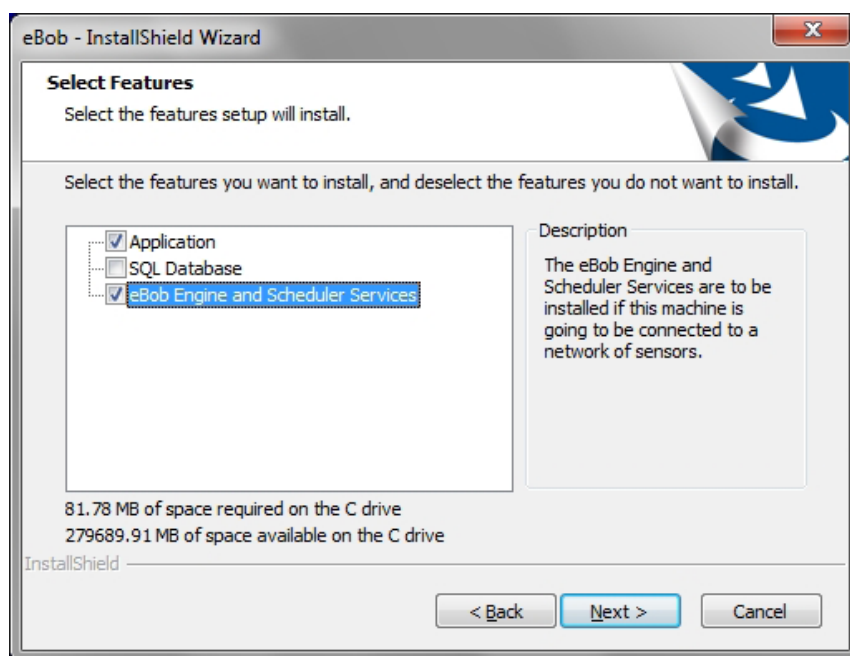

Figure 6
- c. If this installation is for a Site, check Application and also Engine and Scheduler Services as shown in Figure 6.